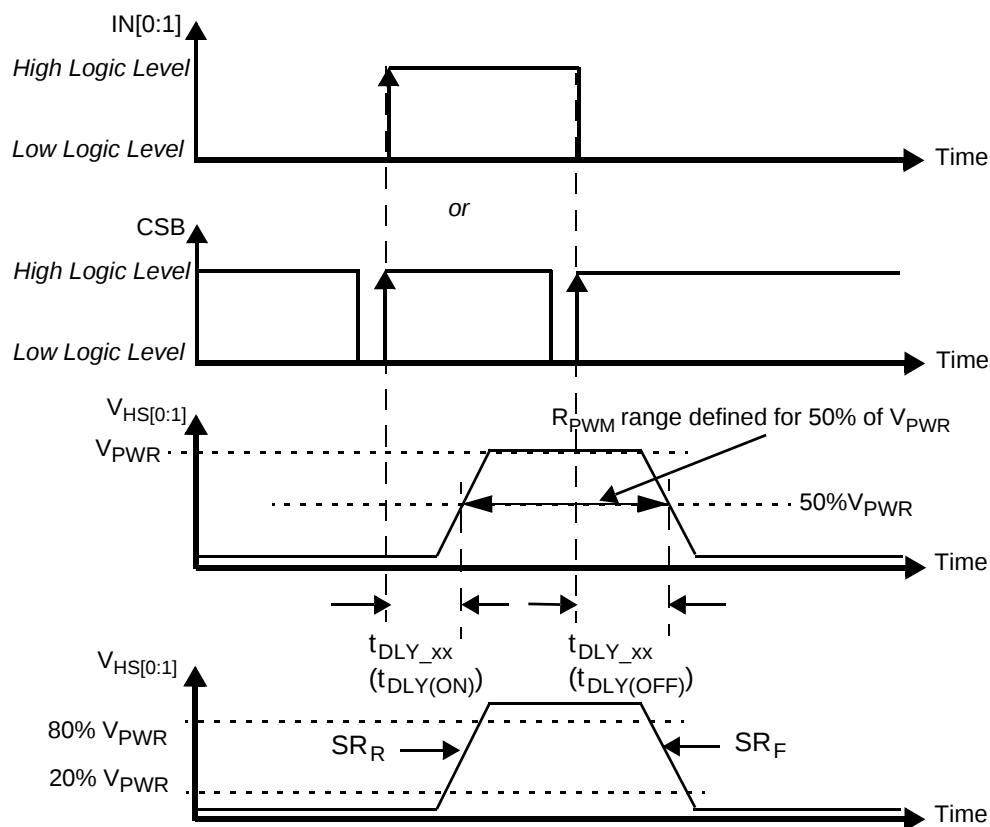
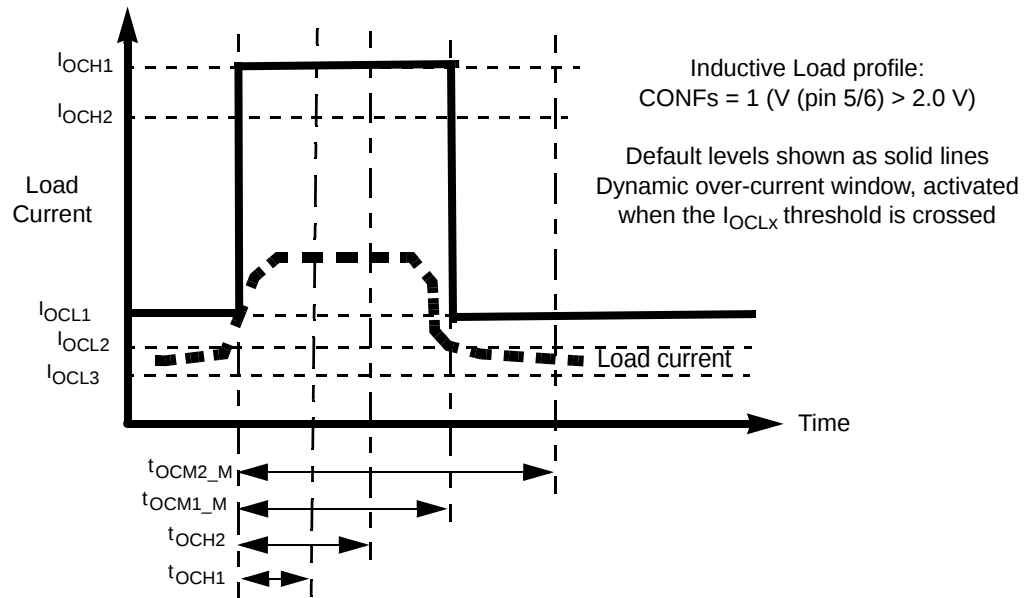
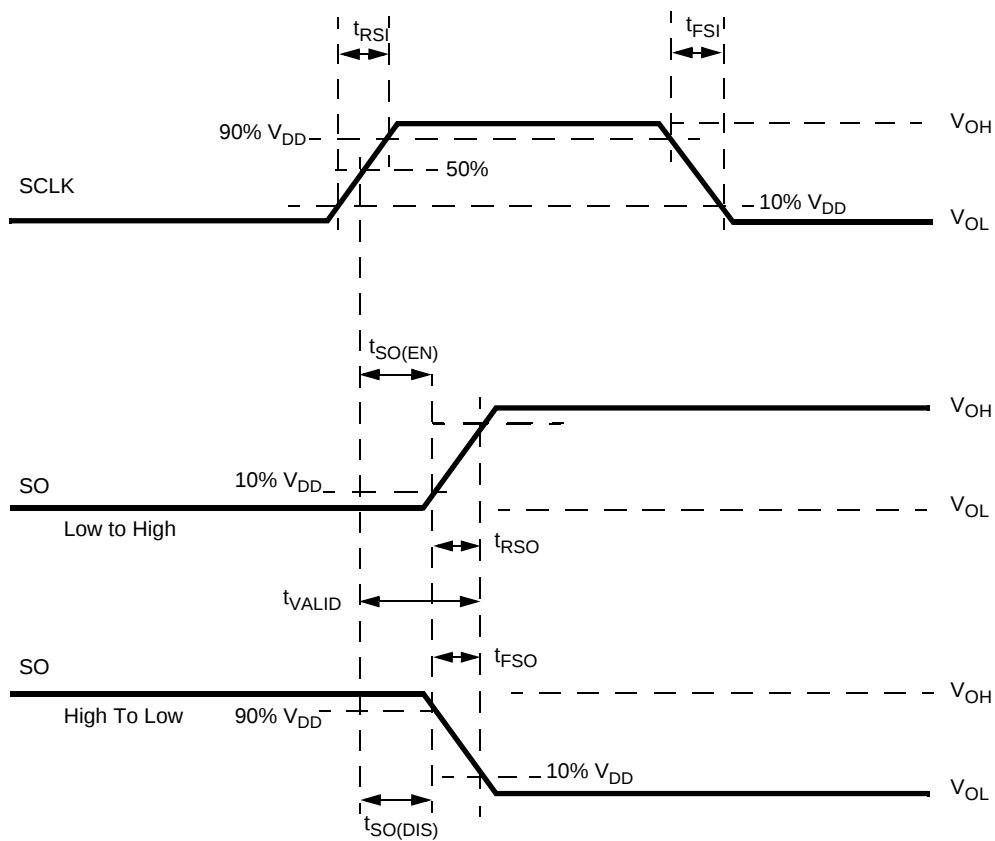

Figure 4. Output Voltage Slew Rate and Delay
Figure 6. Over-current Protection Profile for Applications with Inductive Loads (DC motors, solenoids)
Figure 8. Timing Diagram for Serial Output (SO) Data Communication
29. Rising and Falling edge slew rates specified for a 20 to 80% voltage variation on a 5.0  $\Omega$  resistive load (see Figure 4).
31. Time required to switch off the channel after detection of over-temperature (OT), over-current (OC), SC or UV error (time measured between start of the negative edge on the FSB pin and the falling edge on the output voltage until  $V(HS[0:1]) = 50\%$  of  $V_{PWR}$ ).
32. Settling time ( $= t_{CSNSVAL\_xx}$ ), SYNC output signal delay ( $= t_{SYNCVAL\_xx}$ ) and Read-out delay ( $= t_{SYNREAD\_xx}$ ) are defined for a stepped load current (100 mA <  $I(Load)$  <  $IOCLX\_A$  FOR  $CSNS\_RATIO\_S = 1$ , AND 300 mA <  $I(Load)$  <  $IOCLX\_A\_0$  FOR  $CSNS\_RATIO\_S = 0$ ). (see Figure 8 and Output Current Monitoring \(CSNS\)).
The CS pin allows independent current monitoring of channel 0 or channel 1 up to the steady-state over-current threshold. It can also be used to sense the device temperature. The different functions are selected by setting bits CSNS1\_en and CSNS0\_en to the appropriate value (Table 21). When the CSNS pin is sensed during switch-off in the (optional) track & hold mode (see Figure 8), it will output the scaled value of the load current as it was just before turn-Off. When several devices share the same pull-down resistor, the CSNS pins of devices, the current of which is not monitored, must be tri-stated. This is accomplished by setting CSNS0\_en = 0 and CSNS1\_en = 0 in their GCR register (Table 11). Settling time ( $t_{CSNSVAL\_XX}$ ) is defined as the time between the instant at the middle of the output voltage's rising edge ( $HS[0:1] = 50\%$  of  $V_{PWR}$ ), and the instant at which the voltage on the CSNS pin has settled to  $\pm 5.0\%$  of its final value. Anytime an over-current window is active, the CSNS pin is disabled (see Over-current Detection on Resistive and Inductive Loads). The current and temperature sensing functions are unavailable in Fail-safe mode and in Normal mode when operating without the  $V_{DD}$  supply voltage. In order to generate a voltage output, this pin requires a pull-down resistor ( $R(CSNS)=1.0\text{ k}\Omega$  typ. and  $470 < R(CSNS) < 10\text{ k}$ ). When the current sense resistor connected to the CSNS pin is disconnected, the CSNS voltage is clamped to  $V_{CL(CSNS)}$ . The CSNS pin can source currents up to about  $5.6\text{ mA}$ .
edge of CSB. The SO output driver is enabled when CSB is logic [0]. CSB should transition from a logic [1] to a logic [0] state only when SCLK is at logic [0]. CSB is internally pulled up to  $V_{DD}$  through  $I_{UP}$ . (see Figure 6 and Figure 8)